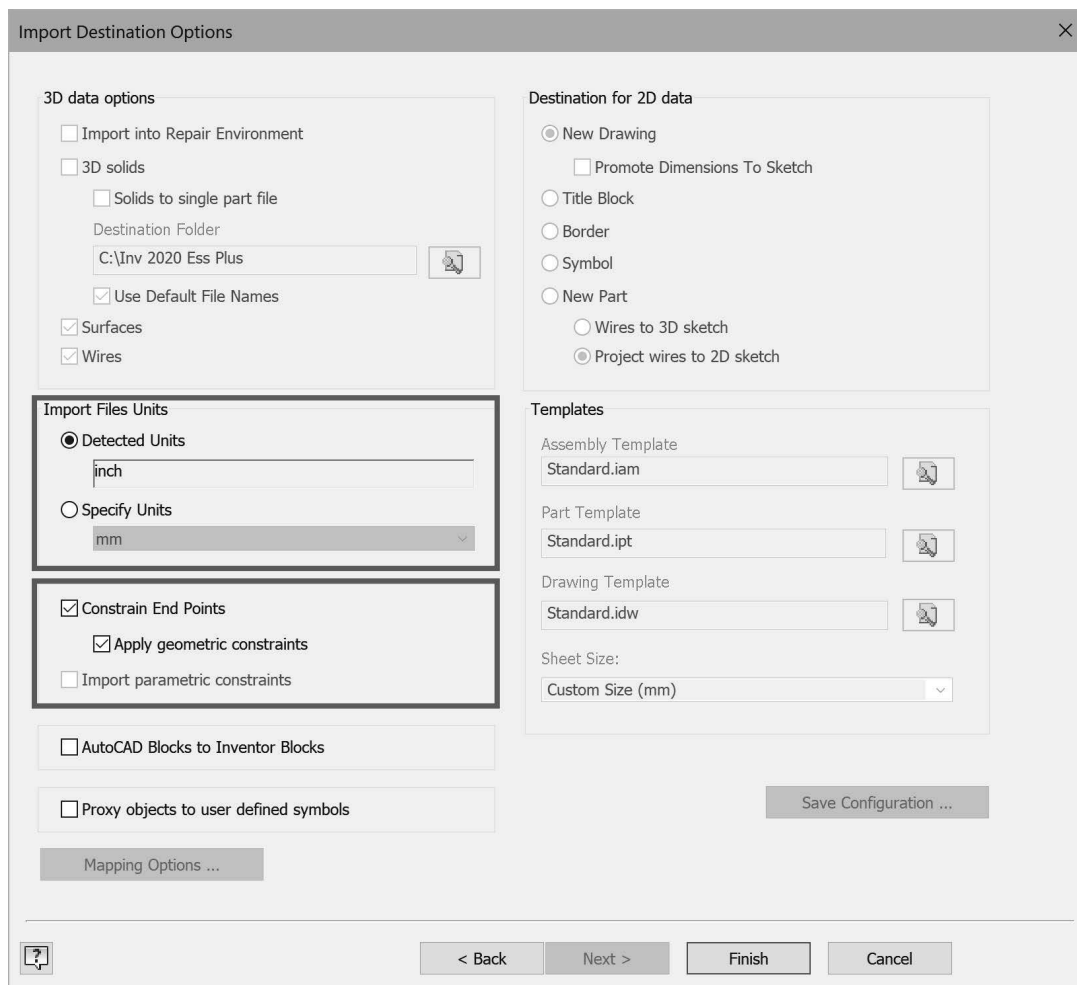

Figure 2.88
9. Check the options to Constrain End Points and Apply geometric constraints as shown in Figure 2.88. The Apply geometric constraints option will add sketch constraints to geometry that is parallel, perpendicular and tangent.